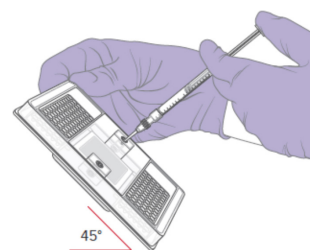

Figure 7. Inserting a syringe into an accumulator
3. Holding the IFC at a 45° angle, insert the syringe tip into an accumulator (Figure 7).